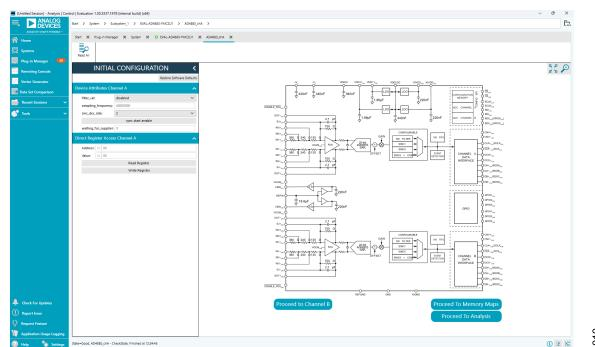

Figure 10. AD4884 Channel A Tab in the ACE Software
- Two buttons in the lower-right corner (**Proceed to Memory Maps** and **Proceed to Analysis**), which are shown in Figure 10.